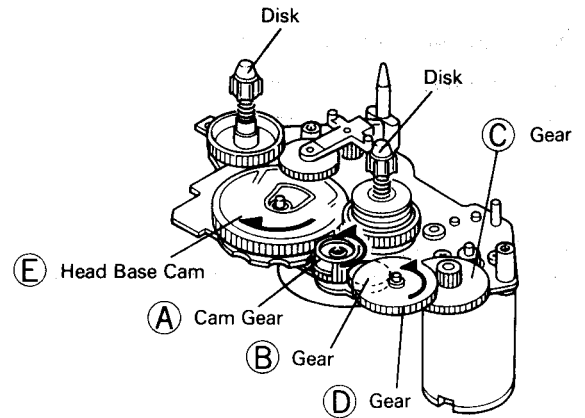

Fig. 6-10
1. Re-assemble the disk base unit in order of numbers (**A**) to (**E**) shown in Fig. 6-10.
- b) Engage the gears (**B**), (**C**) and (**D**) with each other. (Fig. 6-10)